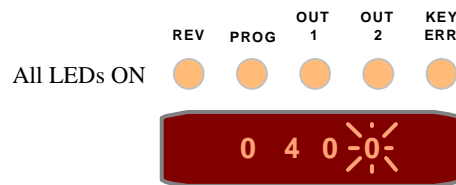

Figure 21: Security Code Number in Diagnostics Mode
3.	Press the ◀ LEFT ARROW key and the display will show the default Security Code of 0400, as shown in Figure 21.